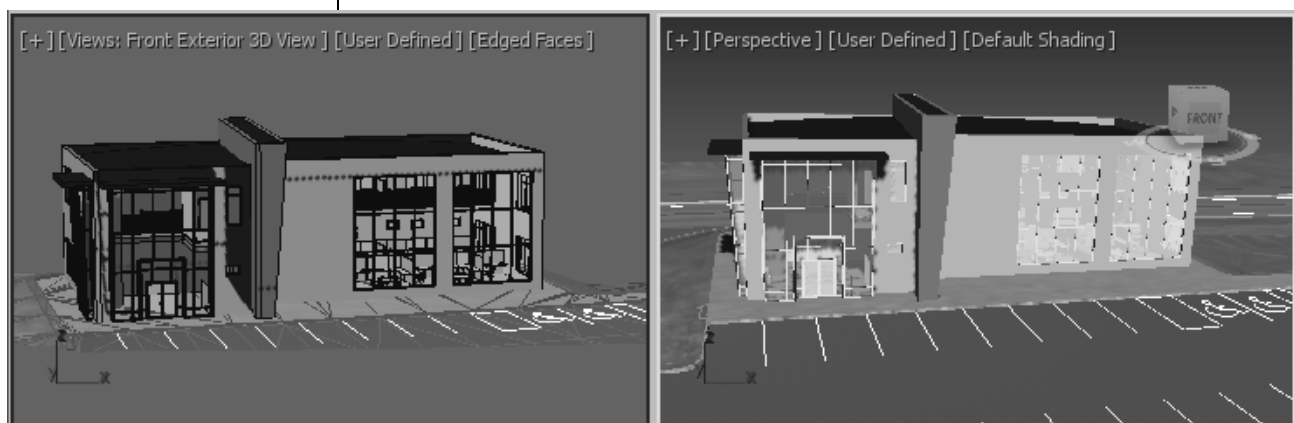

Figure 3-44
22. Use  (Orbit Camera) and  (Field-of-View) to display the complete building in the **Left** viewport, similar to that as shown in Figure 3-44.
23. In the **Perspective** viewport, use  (Zoom),  (Orbit) and **Pan** to zoom into the building and parking lot area so that the display is similar to that shown in Figure 3-44.